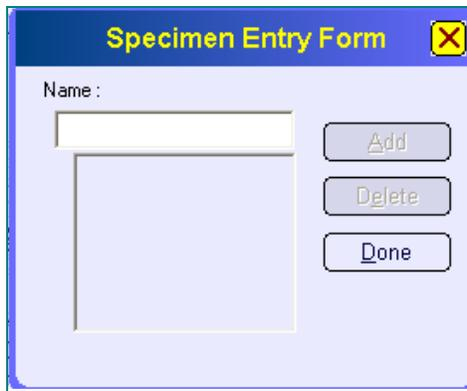

Figure 22: <Specimen Entry Form> Window
2. The **<Specimen Entry Form>** window (Figure 22) will appear.